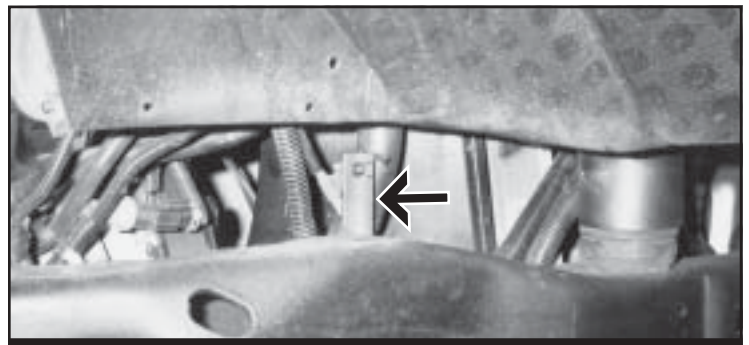

FIG. 6—Ground cable relocation
25. Attach the ground cable relocation bracket (01602) to the original mounting hole in the frame using the stock bolt. Using a 1/4" nut and 1/4" SAE washer, mount the stock cable bracket to the relocation bracket (Fig. 6).